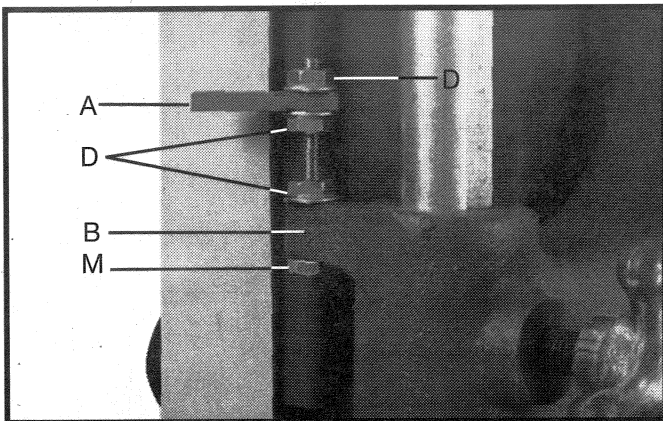

Fig. 14
1. Use the 2-1/2" full thread screw (C) and 3 flanged hex nuts (D) to attach the 1/2" x 1-1/2" bracket (Fig. 14) to the arm assembly. **NOTE:** Install the screw (C) upward through the hole in the arm assembly (B). Height adjustments can be made later.